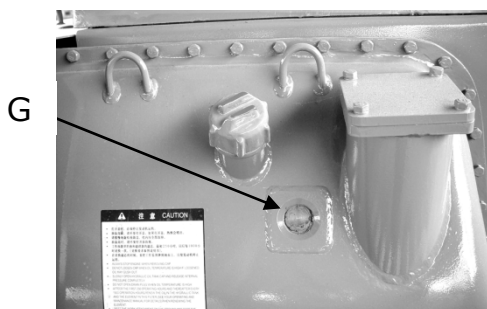

FIGURA 5-8
2. VERIFIQUE O NÍVEL DO RESERVATÓRIO HIDRÁULICO (VER A FIGURA 5-8):